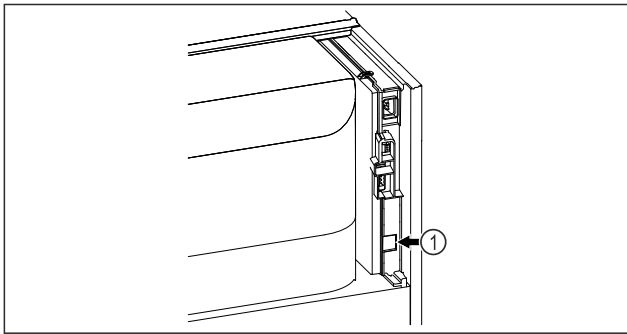

Fig. 84
- ☐ SmartModule Fig. 84 (1) is in use.